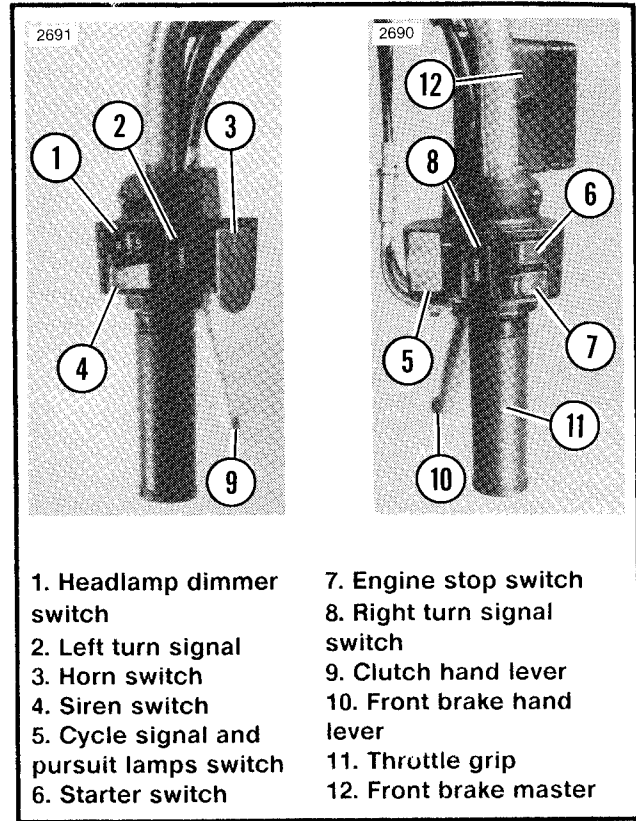

Figure 3. Handlebar Controls
See Figure 3. The starter switch (6) is located on the right handlebar. With ignition on, engine stop switch (7) in "RUN" position and transmission in neutral, push switch to operate starter motor.
See Figure 3. Stop switch (7) on right handlebar turns ignition on or off and should be used at all times to stop the engine, especially in an emergency. To stop engine, push switch to position marked OFF. Turn ignition/light switch to position marked OFF and remove key before parking or leaving vehicle.
See Figure 3. The throttle control grip (11) is located on the right handlebar control group. Turn control grip clockwise to close throttle; turn control grip counterclockwise to open throttle.
See Figure 3. Engine speed increases as the enrichener knob is pulled out. By moving the enrichener knob, you adjust the air/fuel mixture to start a cold or warm engine.
See Figure 3. The clutch hand lever (9) is located on the left handlebar where it may be easily operated with the fingers of the left hand. Pull lever in against handlebar grip to disengage clutch; release the lever slowly to its outward position to engage clutch.
See Figure 3. The headlamp dimmer switch (1) on the left handlebar controls the headlamp high and low beams.
See Figure 3. The siren switch (4) is located on the left handlebar. The siren switch is used in combination with the horn switch (3) to activate the siren. The three procedures for operating the siren are as follows:
See Figure 3. The horn is operated by the horn switch (3) on the left handlebar. Refer to the SIREN SWITCH previously covered for the siren modes controlled by the horn switch.
See Figure 3. The cycle signal and pursuit lamps switch (5) is located on the right handlebar. The two procedures for operating this switch are as follows: